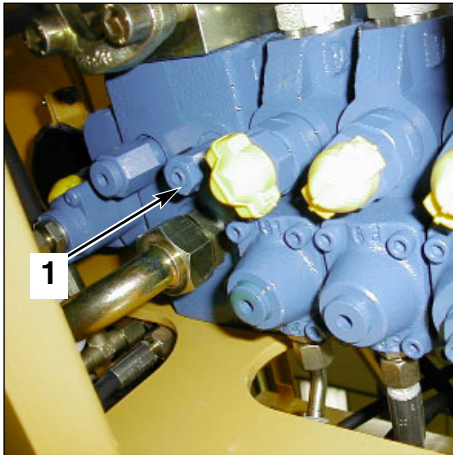

Fig. 1 SX18 valve block
- 1- Over-tare the L.S. valve on the valve block by turning the controller screw to blocked position (1 fig. 1).